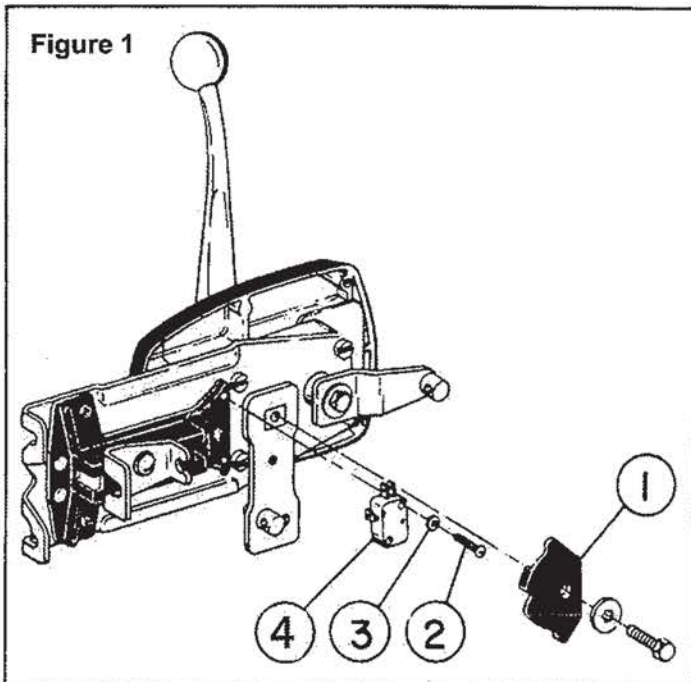

Figure 2
1. Assemble switch (4) to control using screws (2), lockwashers (3) as shown in Fig. 1. Pay special attention which way shift arm is assembled to that switch is mounted correctly and will not conflict with shift arm when control is operated. See Fig. 2 and 3.
2. Attach cam (1) to shift arm using retaining screw and lockwasher provided with control.
3. Terminals (5) are provided to connect switch electrically. Wire switch into circuit between the starter solenoid and starter key switch. Connect to the common and normally closed terminals of switch on control.